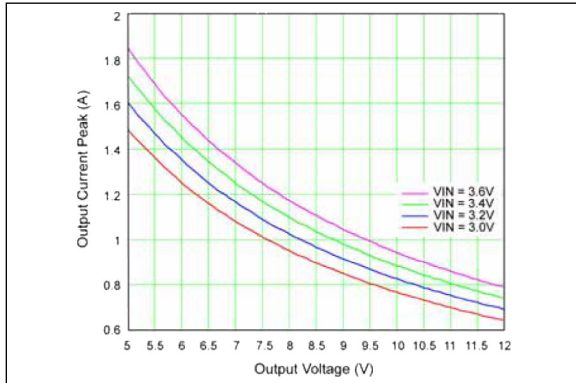

FIGURE 6-1: Peak Output Current vs. V_{OUT} .
Therefore, any load transient with a period of < 3s can exceed the SOA curve power up to a maximum limited by the current limit of the MIC2298. Figure 6-1 shows the theoretical output current limit of the MIC2298 using the Evaluation Board inductor value of 4.7 μ H.
- The time constant of the driver is < 3 seconds, so one can look at the peak current capability of the driver in Figure 6-1.
- Looking at Figure 6-1, the MIC2298 can achieve more than the required 800mA peak current at 8.4V.